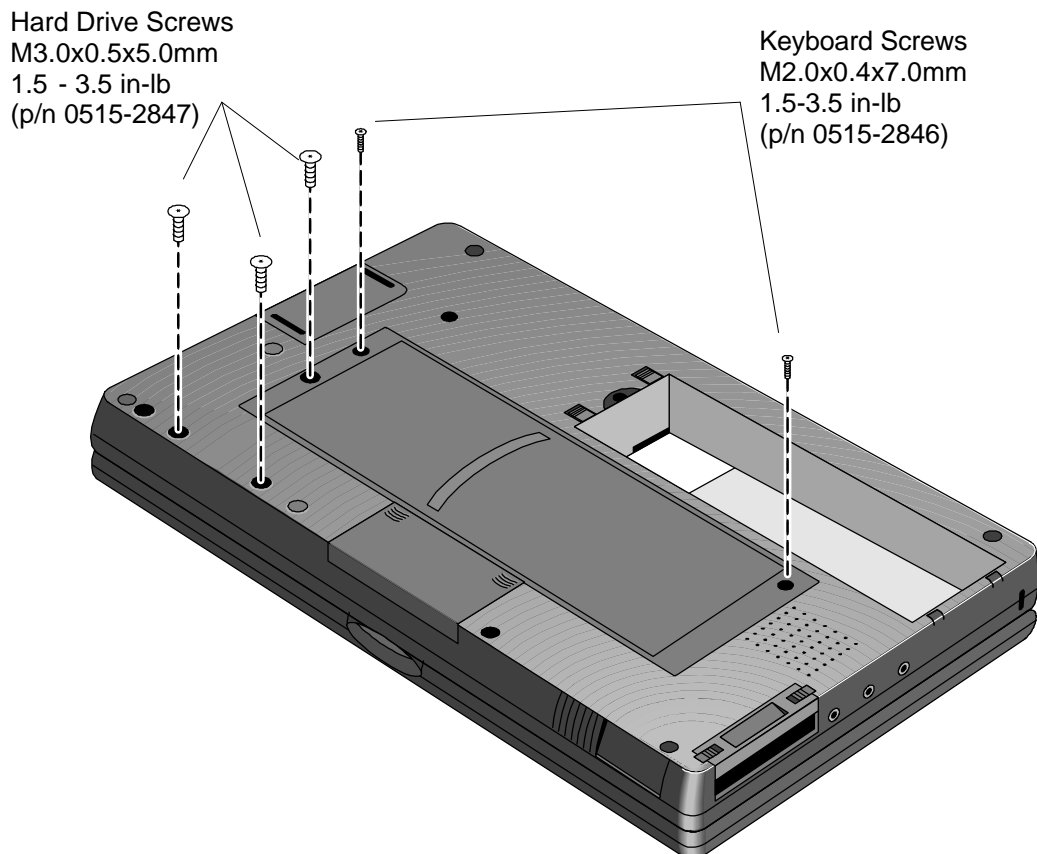

Figure 19 - Hard Drive Screws
3. Use a Torx-T6 screwdriver to remove the two keyboard screws and the three hard drive screws (the exact location of the hard drive screws vary with the manufacturer of hard drive). See Figure 19.